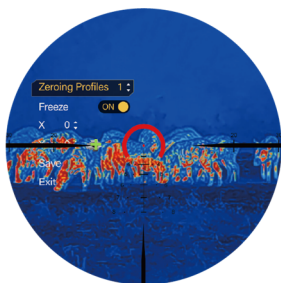

Figure 2
6. Use the center of the reticle in your glass optic as POA, and acquire your POI (illustrated as + on Figure 2).